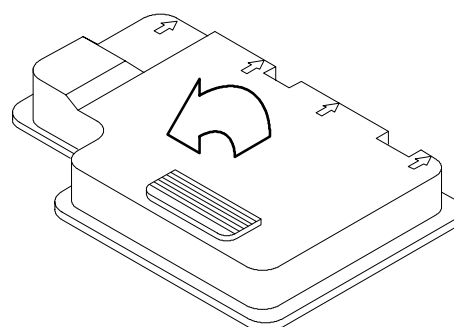

fig. 8
- 2 Remove the rear lid of the control panel clearing it from the hooks at the rear positioned as shown by the arrows printed on the lid (fig. 8);